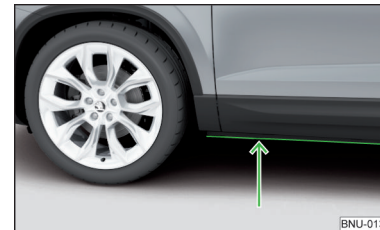

Fig. 256
- › Therefore determine the depth of the water before driving through bodies of water. The water level must not reach above the lower edge of the lower brace » Fig. 256.